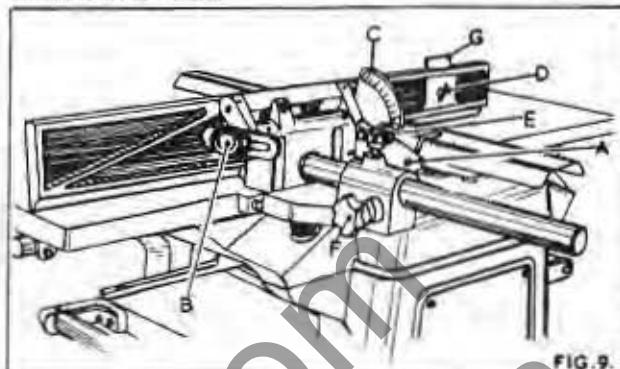

FIG. 9.
The fence cant by means of a lever "A" in FIG. 9. The angle is shown on the graduated scale "C".
2. Check the 90° positive stop by means of a steel square as in FIG. 10. If adjustment is necessary adjust the hexagon head bolts "A" until fence is at right angles to the table when hard up against the stops and the handwheel "B" in FIG. 9 locked.
3. Check the 45° positive stop by means of an adjustable square. If adjustment is necessary adjust the socket head grub screw "B" in FIG. 10 until the fence is 45° to the table when hard up against the stop and the handwheel "B" in FIG. 9 locked.